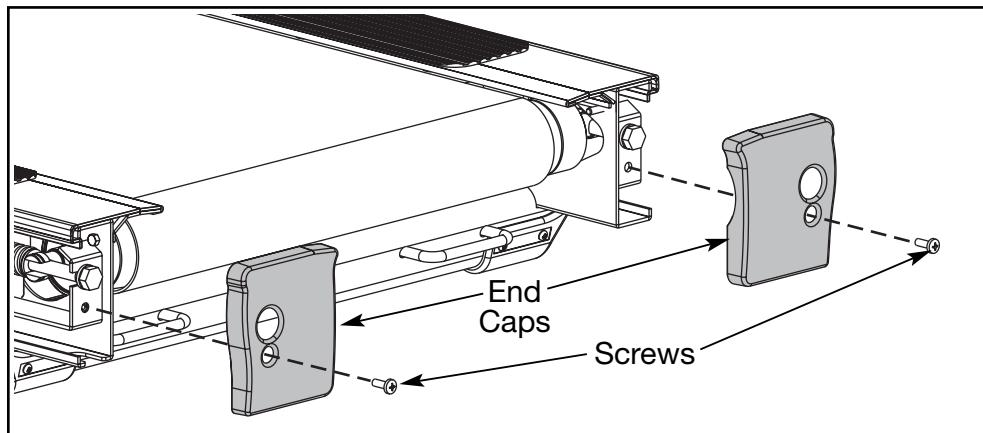

Figure 4
- A. Using a Phillips head screwdriver, remove the screw that holds each end cap in place. See Figure 4.
A. Place each top step in position. See Figure 4.
B. Using a Phillips head screwdriver, secure the three screws that hold each top step in place. See Figure 4.
A. Using a Phillips head screwdriver, tighten the screw that holds each end cap in place. See Figure 4.